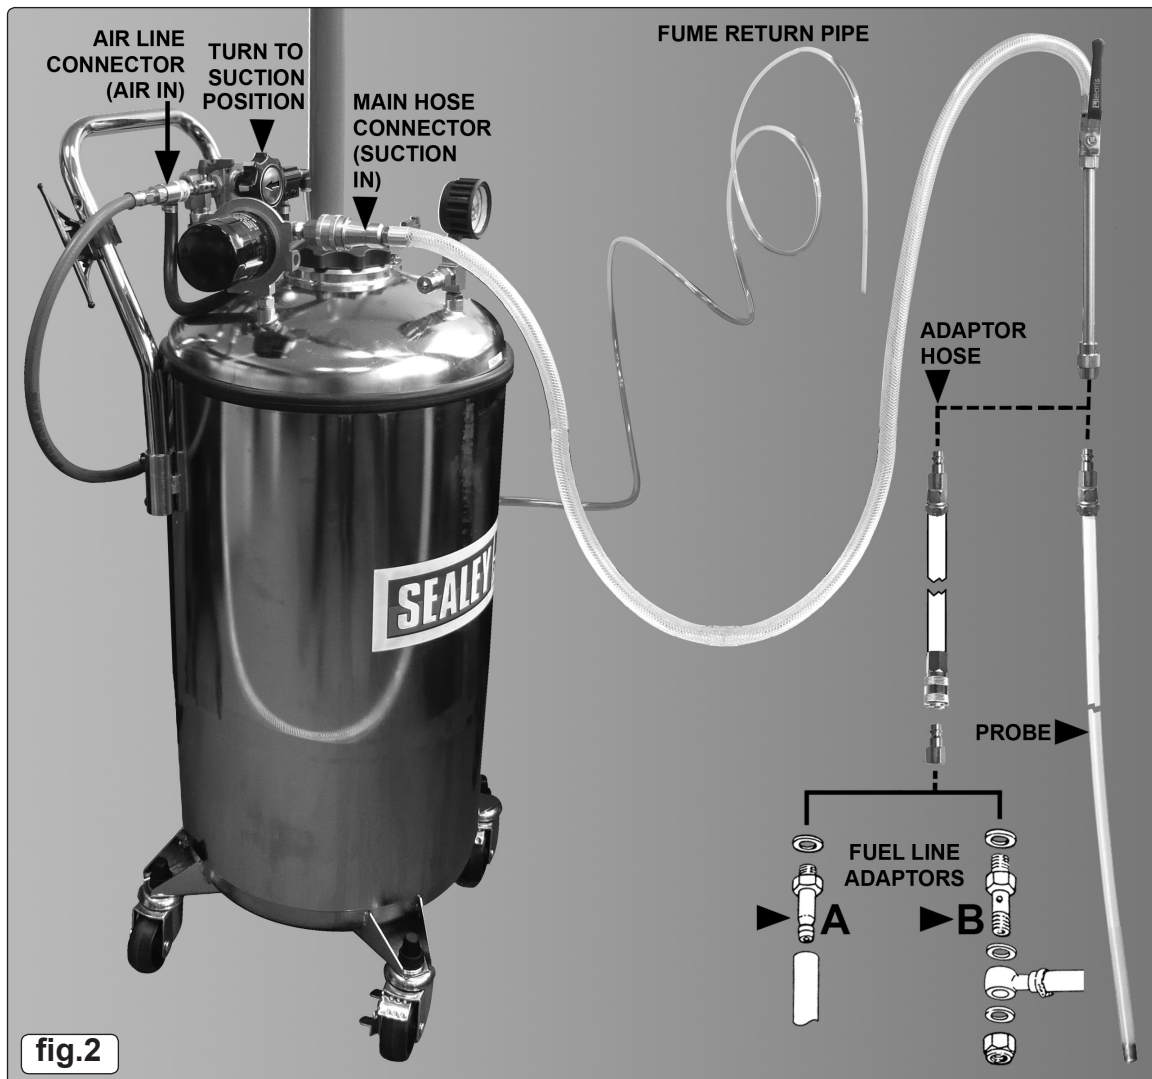

fig.2
- 4.1. Assemble Handle. Remove the screws from the tubular handle supports and insert the ends of the handle into the two short lengths of tube. See fig.2. Align the threaded holes in the handle with the two holes in each support tube and secure each side with the two screws previously removed.
- 4.3.2. Screw the adaptor and washer into the quick coupling adapter (fig.2) and then connect that into the end of the adaptor hose.
- 4.4.1. Use connector type 'B' (see fig.2). Choose the required diameter. See fig.4B.
- 4.4.2. Screw the adaptor and washer into the quick coupling adapter (fig.2) and then into the adaptor hose.
- 4.4.3. Plug the male fitting on the other end of the adaptor hose into the quick connector main hose. See fig.2
- 4.4.4. Plug the male fitting on the other end of the main hose into the quick connector mounted on the filter bracket. See fig.2 and fig.3-4.
- 4.5.1. Connect one of the 5 probes to the metal extension tube as shown in fig.2.
- 4.5.4. Insert the fume return pipe into the same opening as the collection probe. See fig.2.